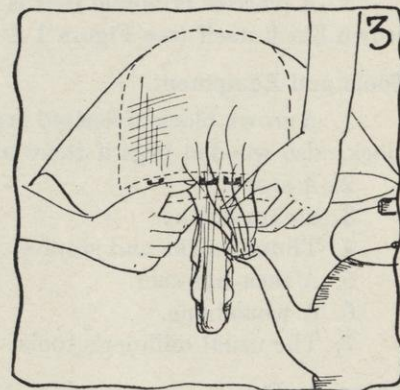

FIG. 3.
- a. Hold block so that one bias corner of the material is over the steam. When it is slightly moist, stretch the crinoline away from you, pulling bias corner down and against block, away from straight of goods toward center of bias corner, and under your thumb as you stretch, until all fullness is removed. In order to keep fullness from jumping back, tack the material to the block with staples at several places, but only in the headsize lift (see Figure 3).